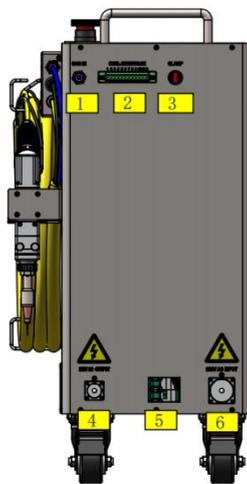

Figure 4.2 The Rear Panel of the FCA series fiber laser
- (1) The laser need to be placed horizontally and fixed, without inversion, side setting, vibration and impact.
- (2) When connecting the power line and control line, make sure that the power supply is disconnected for non live operation.
- (3) When the laser is connected to the gas circuit, it is necessary to recognize the gas inlet and outlet signs and connect them according to the signs. See Fig. 4.2 for the air inlet.
- (4) During the installation of QBH, the surrounding environment must be cleaned, in order to protect the QBH from polluted.
- (5) Check the output head and clean it if necessary. If any dust on the QBH end face cannot be cleaned, please contact Recipro, and at the same time the cleaning procedure must be performed by personnel of Recipro or authorized by Recipro.
- (6) Prevent the delivery cable from treading, excessive bending, smashing with heavy objects during installation. There would be no warranty if the cable is damaged due to external force.
The layout of the rear panel is shown in Figure 4.2.